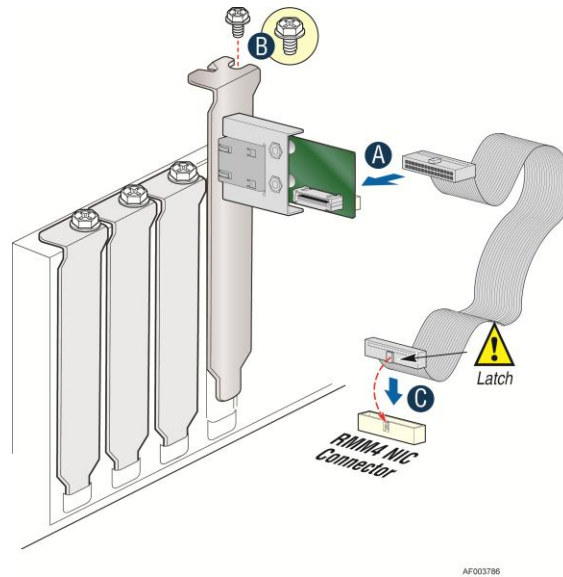

Figure 21: Adding the Intel® Dedicated Server Management NIC module on a Third-party Chassis
- Attach the cable to the cable connector on the Intel® Dedicated Server Management NIC module as shown in Figure 21 (A).
- Attach the cable to the RMM4 NIC connector (J5C1) on the server board as shown in Figure 21 (C).